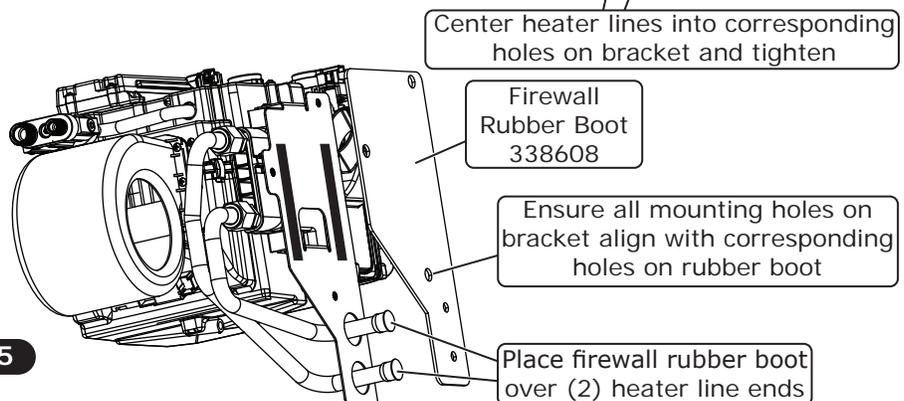

Figure 5
9. Place the firewall rubber boot over the front bracket and the (2) heater line ends (See Figure 5, below). Ensure the lines are tight and remain centered inside the bracket holes. Ensure all the mounting holes on the bracket align with the corresponding holes on the rubber boot (See Figure 5, below). **NOTE: It will be a tight fit, remove the heater line caps before installing the rubber boot then immediately replace them once the rubber boot is installed.**